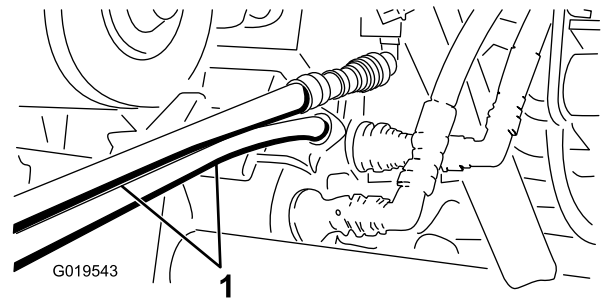

Figure 75
5. On the other machine, connect the 2 hoses to the coupler still in the coupler bracket (connect the top hose to the top coupler and the bottom hose to the bottom coupler) (Figure 75).